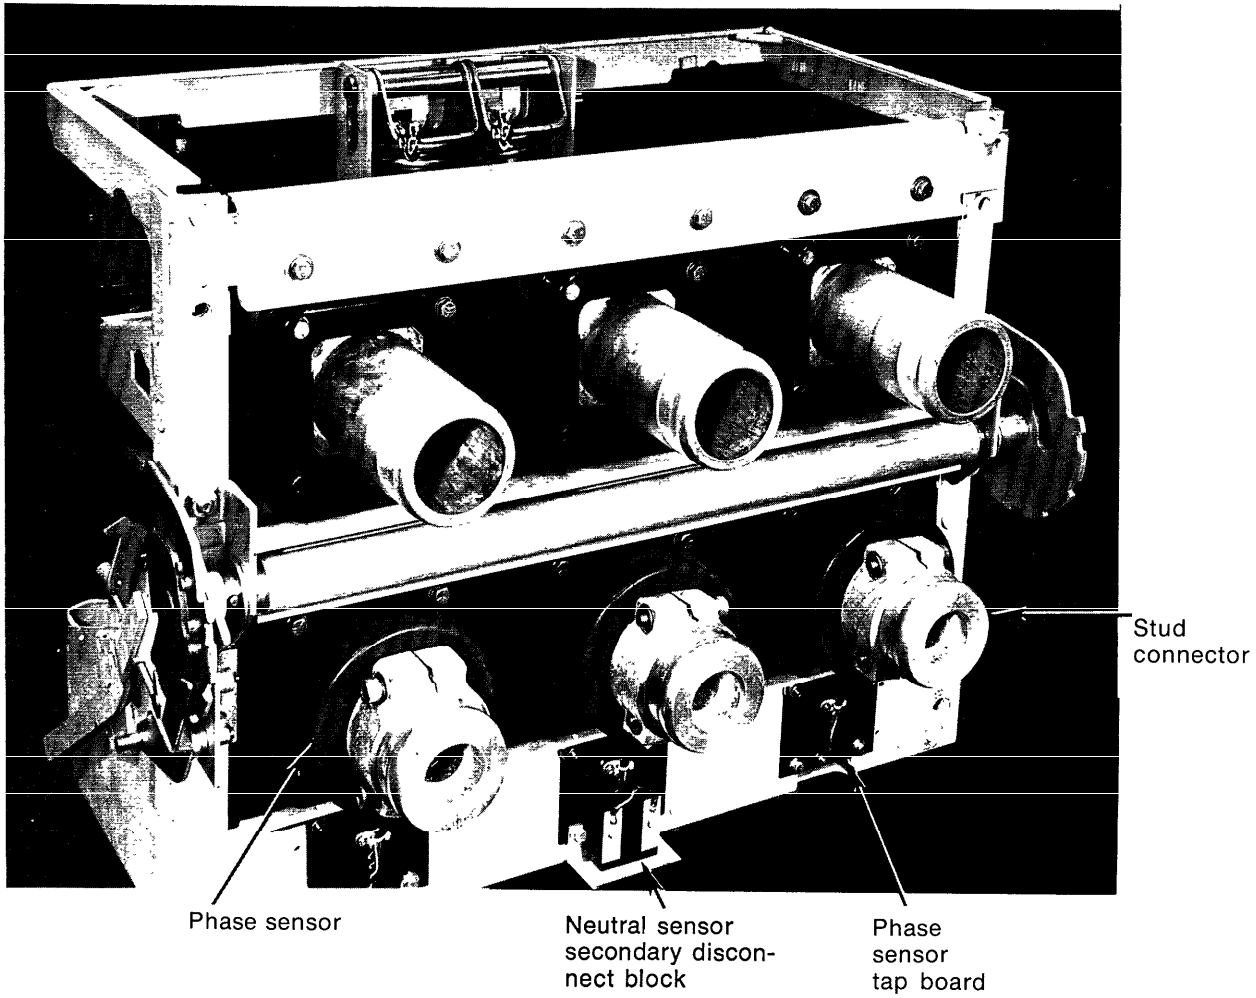
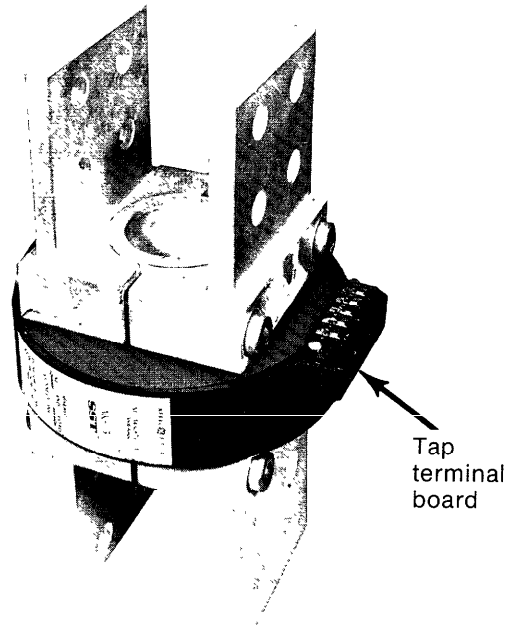
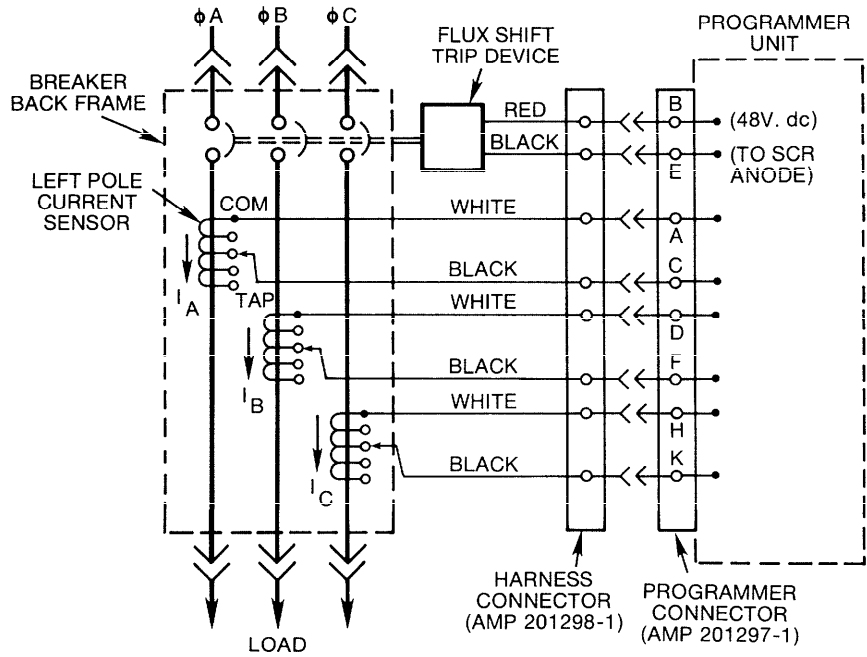
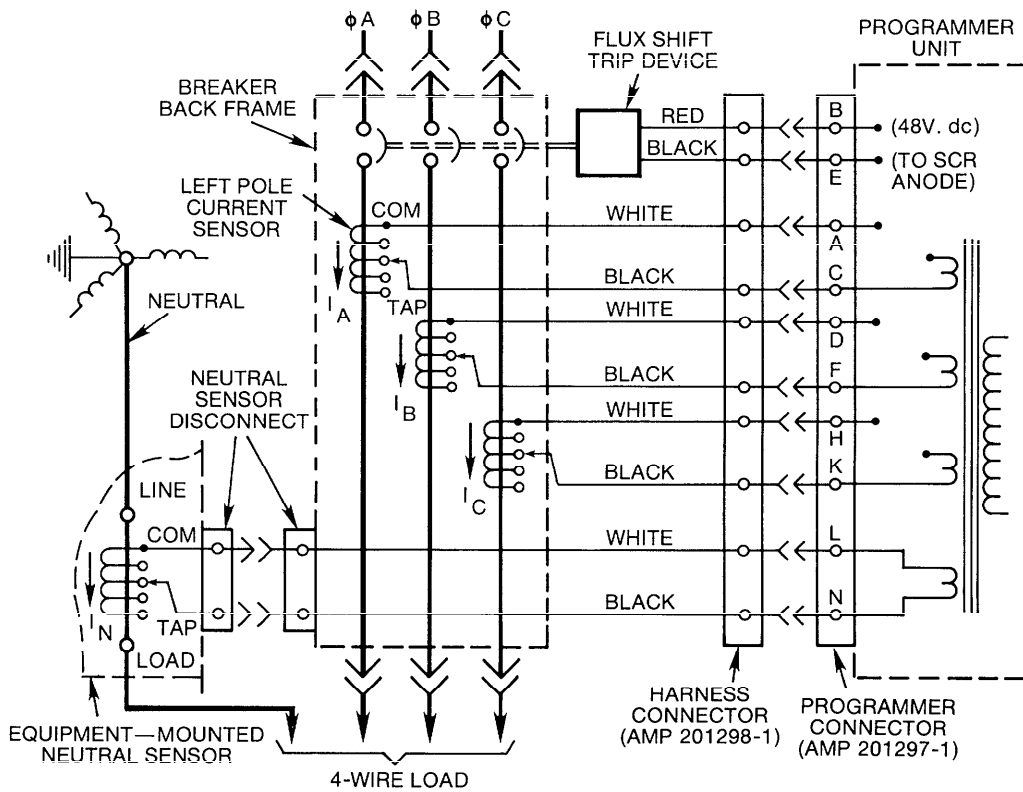

Fig. 4. Rear view, AK-5-100
Fig. 6. SST neutral sensor (equipment mounted)
Fig. 13. Cabling Diagram—SST without Ground Fault
Fig. 15. Cabling Diagram—SST with Ground Fault on 4-wire load
Application of the Ground Fault element to 4-wire systems with neutral grounded at the transformer requires an additional, separately mounted sensor (Fig. 6) inserted in the neutral conductor; its secondary is connected to a fourth primary winding on the ground differential transformer. See Fig. 15. This "fourth-wire" neutral sensor is an electrical duplicate of the phase sensor, including taps. Therefore, when taps are changed on the phase sensors, those on the neutral sensor must be correspondingly positioned.
All components except the neutral sensor are mounted on the circuit breaker. The phase sensors are mounted around the lower studs at the rear of the breaker (see Fig. 4). The programmer unit and the flux shift trip device are mounted on the breaker's front frame. These components are interconnected by wiring harness and disconnect plugs as shown on the cabling diagrams (Figs. 13 and 14).
When used, the neutral sensor (fig. 6) is separately mounted in the bus or cable compartment of the switchgear. In drawout construction, its output is automatically connected to the breaker via secondary disconnect blocks. See Figs. 4, 5 and 15.
- d. On Ground Fault breakers serving 4-wire loads, check that the neutral sensor is properly connected (see cabling diagram Fig. 15). In particular,
Phase sensors are removed as follows (see Fig. 4):